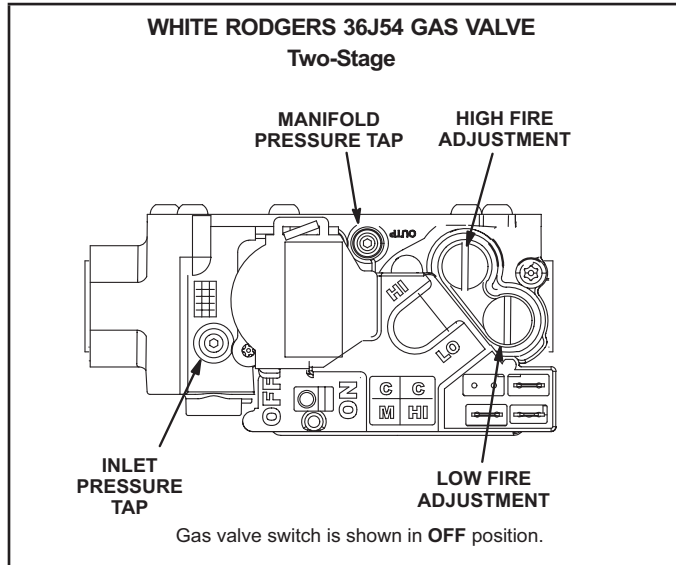

FIGURE 23
Gas Valve Operation (figure 23)
- 5 - Move gas valve switch(es) to **OFF**. See figure 23.
- 6 - Wait five (5) minutes to clear out any gas. If you then smell gas, **STOP!** Immediately call your gas supplier from a neighbor's phone. Follow the gas supplier's instructions. If you do not smell gas, go to the next step.
- 7 - Move gas valve switch(es) to ON. See figure 23.
After line pressure has been checked and adjusted, check manifold pressure. Move test gauge to the outlet pressure tap located on unit gas valve GV1. See figure 23 for location of pressure tap on the gas valve.